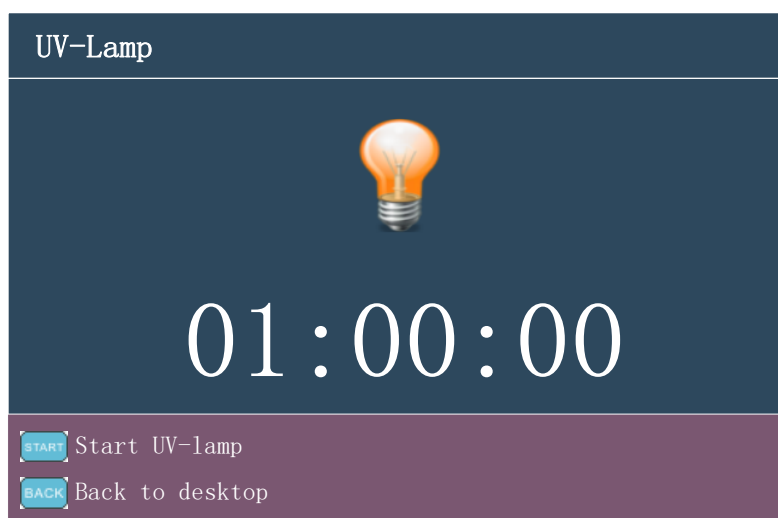

Figure 4-9 UV Lamp Disinfection Interface
User could press  or  to select the  **UV-Lamp** > icon on the standby interface, and then press  to enter the UV lamp disinfection interface, as shown in figure 4-9.
2. Press  to enter the UV lamp disinfection interface, as shown in the figure 4-9.